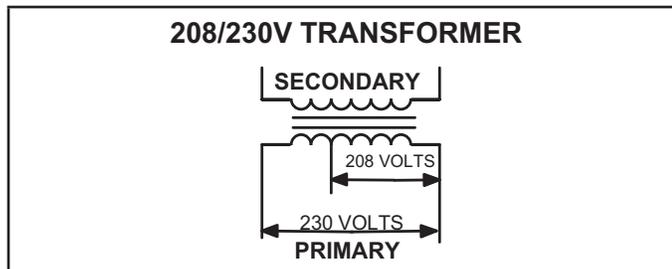

FIGURE 3
Units use a single line voltage to 24VAC transformer mounted in the control box. Transformer supplies power to CMC1 and control circuits in the unit. The transformer is rated at 70VA and is protected by a 3.5 amp circuit breaker (CB8). The 208/230 (Y) voltage transformers use two primary voltage taps as shown in FIGURE 3, while 460 (G) and 575 (J) voltage transformers use a single primary voltage tap.